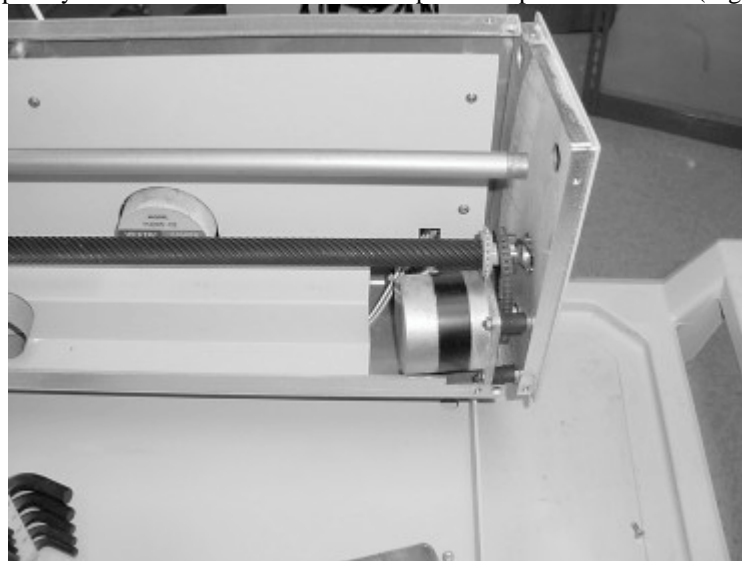

Figure 1-10.
8. To remove the side plate you will need a rubber mallet. Tap on side panel to remove (Figure 1-10).